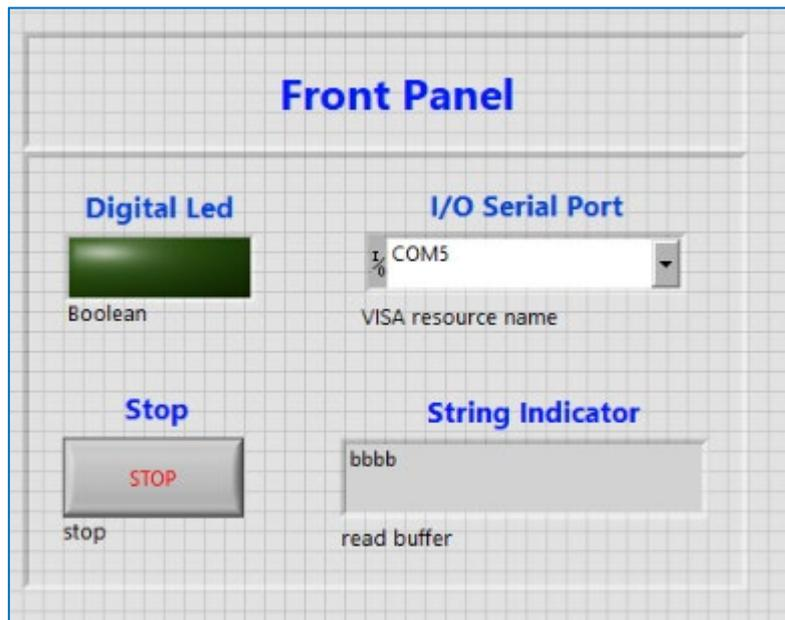

Figure 1. Front panel view
1.- Open a new project in LabView and create the user interface. (Figure 1)